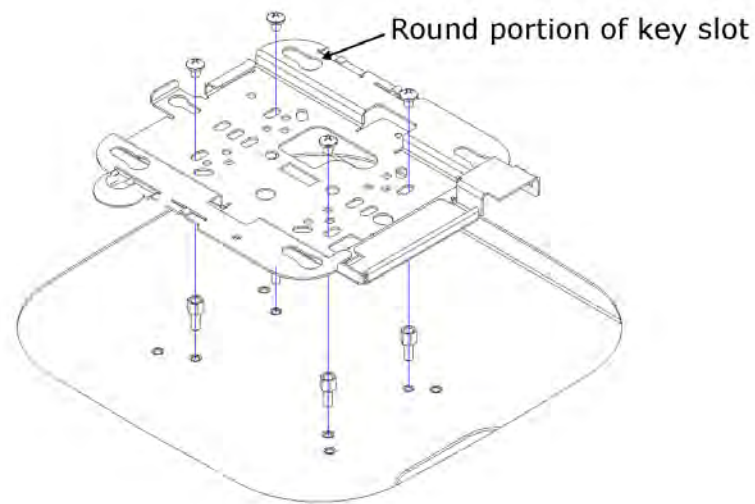

Figure 1 – Close-up showing proper orientation of the Cisco Bracket 2, refer to note for using standoffs
Step 1 – Turn the AP mount over so that the access point opening is facing upward. Install the Cisco mounting plate using four (4) #8-32 pan head screws. The mounting plate should be placed so that the round portions of the key slots are located away from the enclosure lock (reference *Figure 1*). The Cisco "BRACKET 2" should be used with all Cisco 1400, 1600, 2600, 2700, 3500, 3600 and 3700 Access Points.